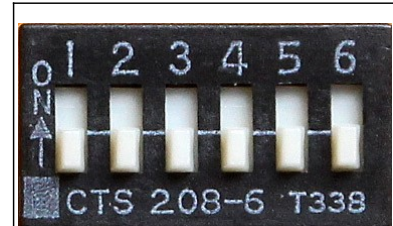

Fig. 23: Speed switch set for 1:1.
- ☐ Use a small screwdriver to slide all six switches on S1 to the Off position (Fig. 23). This selects a clock speed of 1:1.